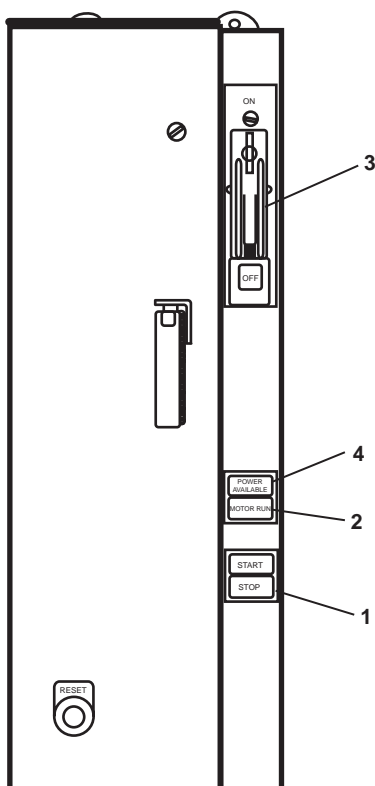

Figure 3. Fresh Water Cooling Pump Motor Controller
- a. Press the STOP pushbutton (figure 3, item 1).
- b. Verify that the MOTOR RUN indicator (figure 3, item 2) goes out.
- c. Set the ON-OFF switch (figure 3, item 3) to the OFF position
- d. Verify that the POWER AVAILABLE indicator (figure 3, item 4) goes out.